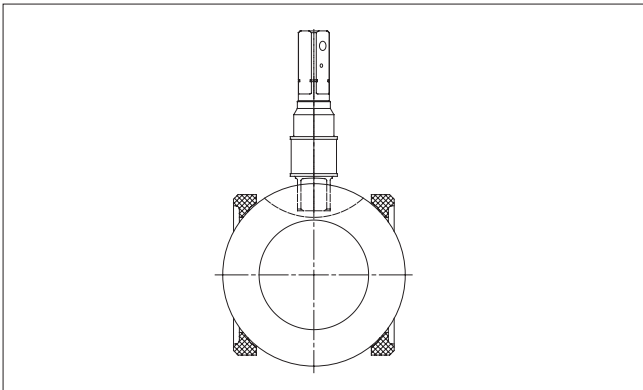

Figure 1.
1. Slide the first seat (5) into the body (1) to below the stem opening and tilt it into place so that the proper face will come into contact with the ball (3) (see **Figure 1**). Do not scratch or cut the seat faces.
2. From inside the valve body cavity, insert the secondary stem seal (13) and lower stem seal (7).